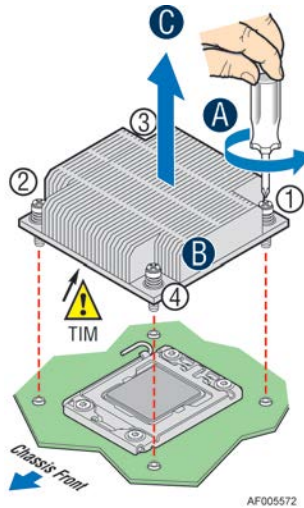

Figure 37. Removing Processor Heatsink
1. Remove the processor heatsink, see Figure 37.